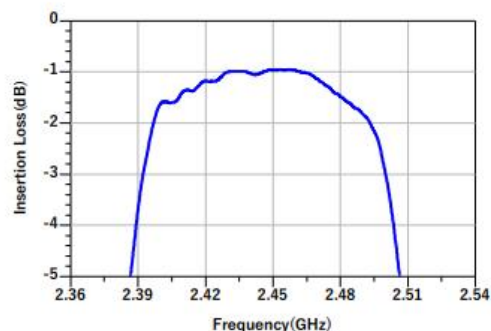

Figure 1: Passband 2.401~2.483 GHz
(1) Carrier Tape: Figure 1 (2)